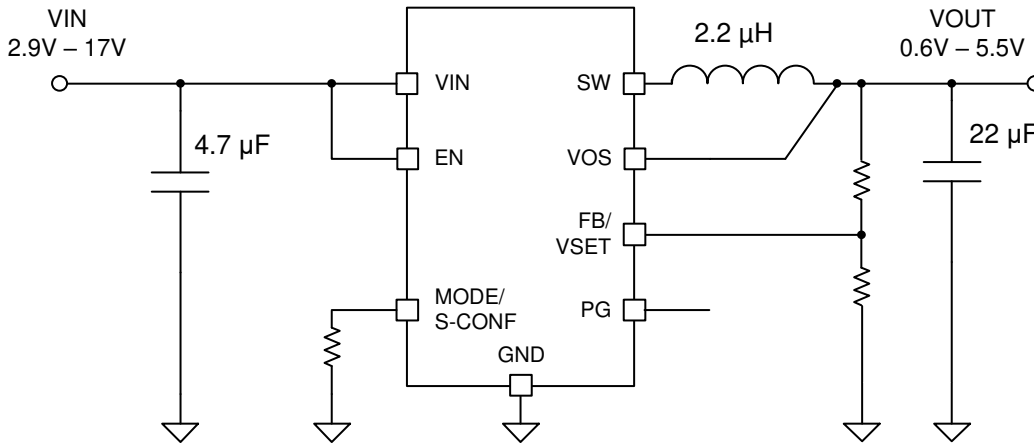
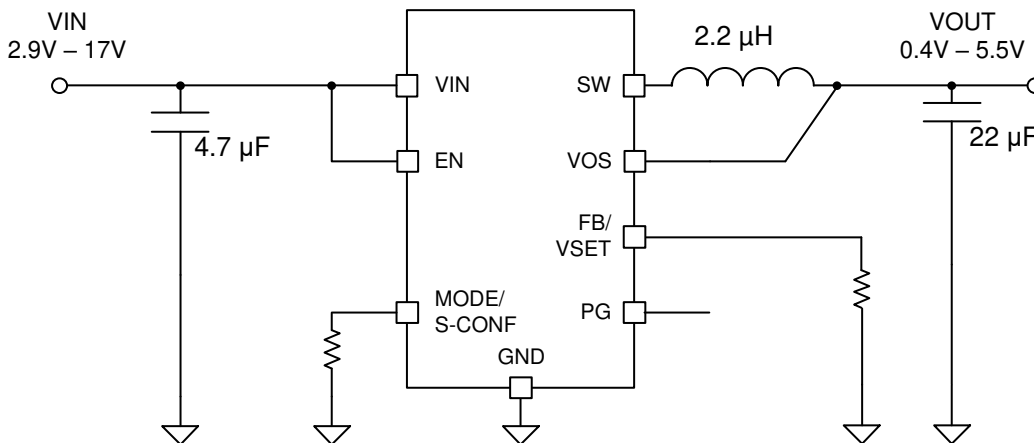

Figure 3-2. Adjustable  $V_O$  Operation Schematic
Figure 3-3. Set-able  $V_O$  Operation Schematic
- The device is operating in one of the two typical application configurations show in Figure 3-2 or Figure 3-3.
- (1) Damage will occur if Vin is greater than the 6-V Absolute Maximum Rating for the pin
- (2) Damage will occur if Vin is greater than the 6-V Absolute Maximum Rating for the VOS pin.
- (3) Applies to a typical application schematic as show in Figure 3-2
- (4) Applies to a typical application schematic as show in Figure 3-3
- (5) Assumes Pin FMA condition occurs prior to device being enabled. If Pin FMA conditon occurs after device is operating, the part will continue operating as previously configured.